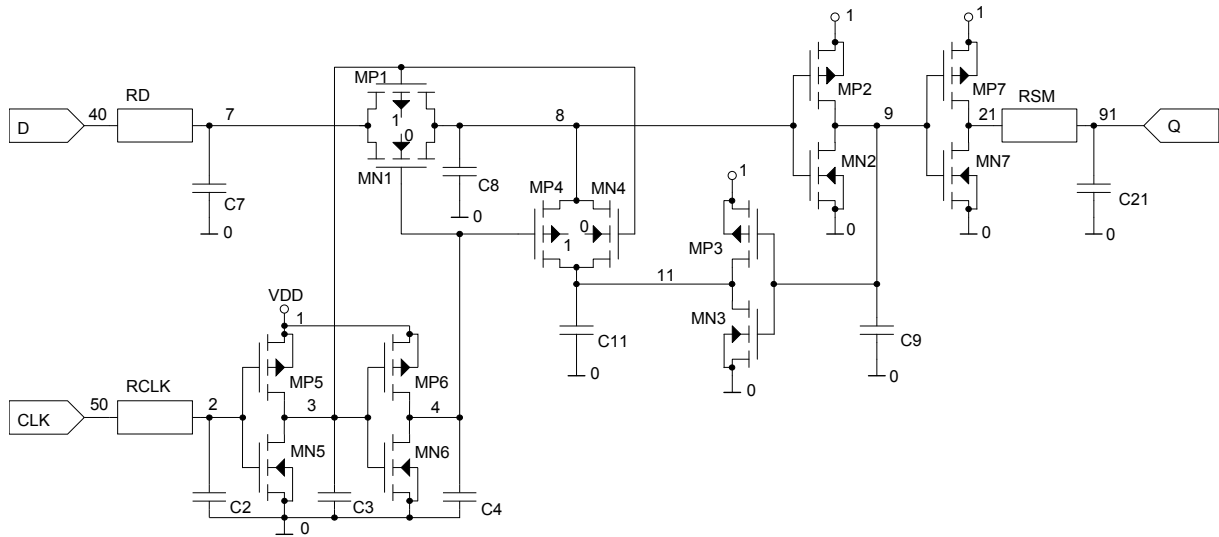

Figure 5: Schematic of D-latch.
In this part a D-latch is investigated. It is shown in Figure 5. First the input signals should be set in a way, that the correct function of the circuit can be checked. The edge steepness of the input signals should be set by  $2.5 \frac{\text{V}}{\text{ns}}$ .
The SPICE netlist of the D-latch from Figure 5 is shown in Listing 3 on the next page and located in `hspice>dl_is2.sp`. It was obtained by extracting the circuit from the layout of a standard cell. For this reason it contains some parasitic components and the specification of area drain (AD), area source (AS), perimeter drain (PD) and perimeter source (PS) for the transistors.